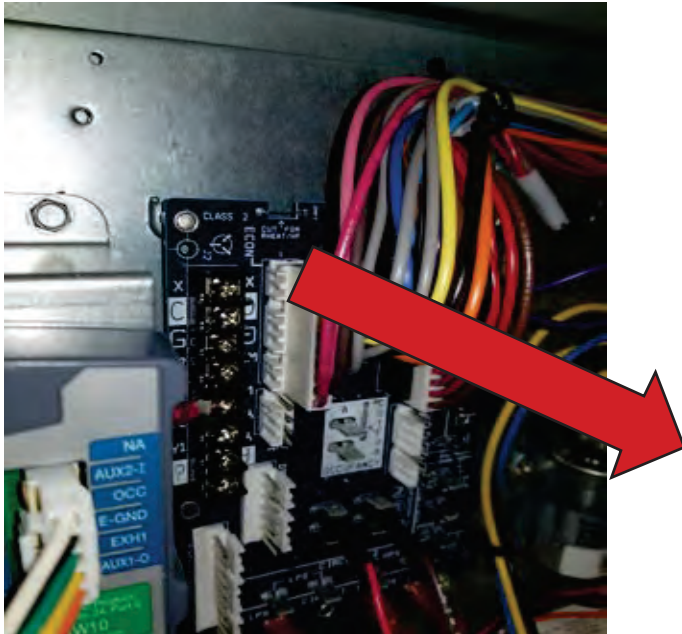

Figure 16 – Unplug ECON plug from Central Terminal Board (CTB)
Step 25: Unplug the 10-pin female ECON plug currently connected to the Central Terminal Board (CTB). See Figure 16.